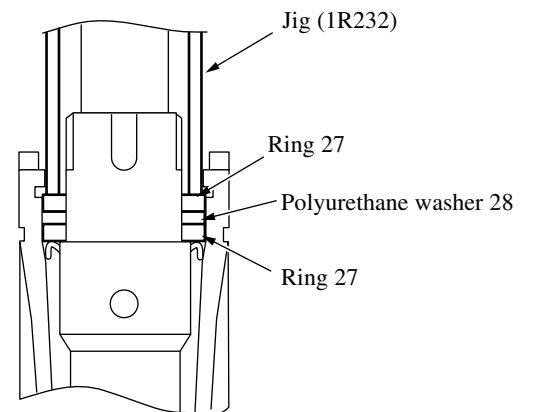

Fig. 13
- 3) Using Jig (1R 232), install Ring27, Polyurethane washer28 and Ring27 in this order. ( See Fig. 13)